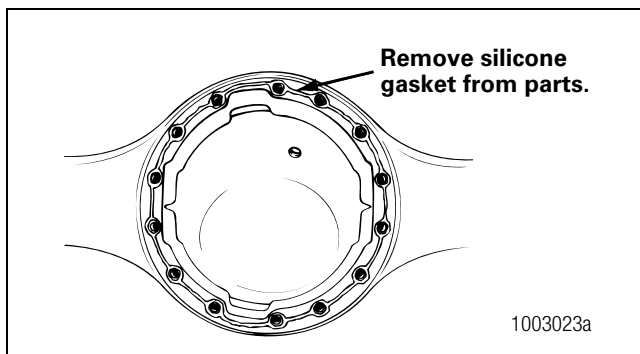

Figure 4.10
4. Clean the parts and apply new silicone gasket material where required when the axle or carrier is assembled. Figure 4.10.